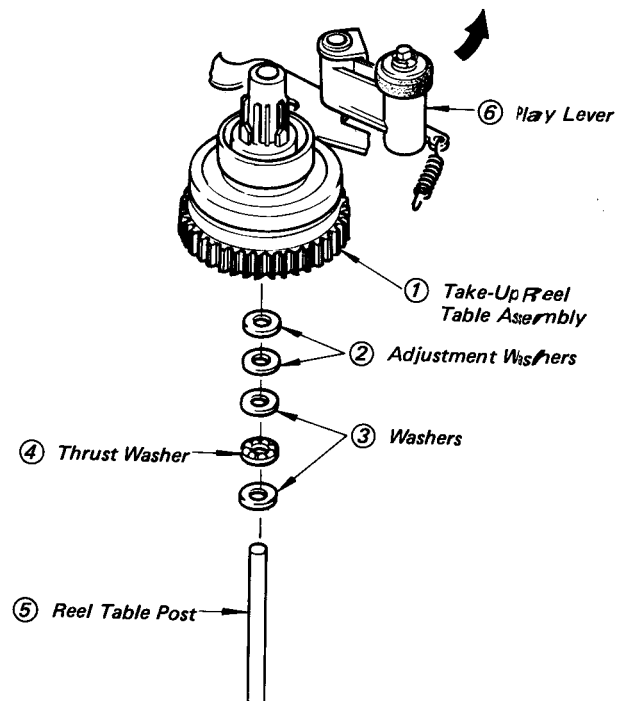

Fig. 5-43 Take-Up Reel Table Assembly Removal
6. Turn and hold the play lever ⑥ in the arrow direction (↺) in Fig. 5-43.
7. Lift the take up reel table assembly ① straight up. (see Fig. 5-43).
8. Take out any of the adjustment washers ②, washers ③, and thrust bearing ④, if stuck by oil, from the bearing of the take up reel table assembly ①.
9. Wipe the reel table post ⑤ to clean using isopropyl alcohol.
10. Wait for the reel table post ⑤ to dry, and then apply a few drop of oil to it.
11. Reassemble the take up reel table assembly ① by reversing Steps 1 through 10.